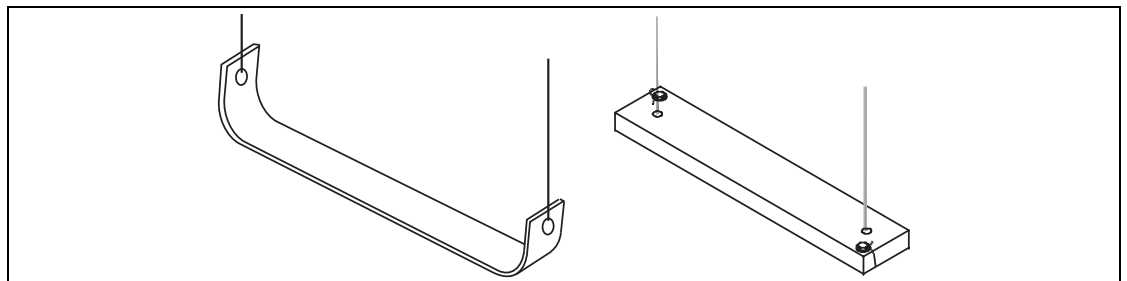

Figure 42: Typical Anchor Installment with Cable Clamps on Left View.
3. Fasten the bottom anchor to the guide cables (see Figure 42) and lower the anchor slowly through the inspection hatch into the tank.